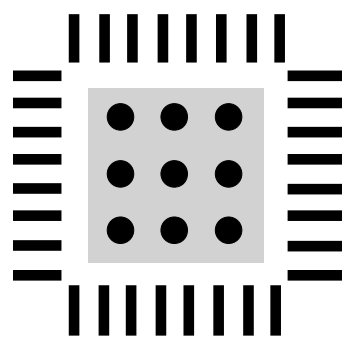

Figure 58. Exposed Pad Layout Example, Top View
- Vias should be placed to connect all layers of copper, allowing for efficient heat and energy conductivity. For an example, see Figure 58, which has nine vias arranged in a 3 inch $\times$ 3 inch grid in the pad area.